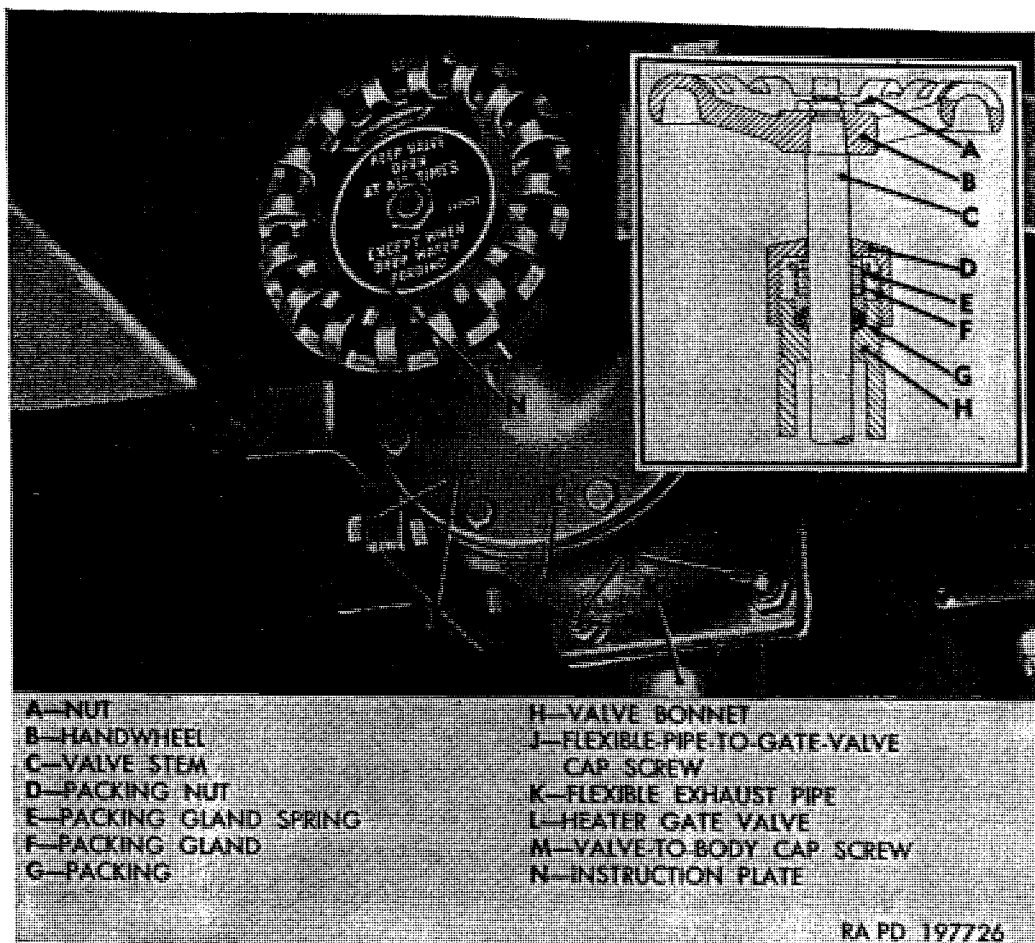

Figure 381. Exhaust heater gate valve.
Note. The key letters in parentheses are in figure 381, except where otherwise indicated.
a. General. Exhaust heater gate valve at exhaust entrance into tank heating chamber is installed as shown in figure 381. Use of gate valve is explained in paragraph 53. Valve is accessible between cab and tank body from right side of vehicle. Valve stem packing gland can be tightened or packing can be replaced without removing the valve from the vehicle.
- (1) Remove nut (A) securing instruction plate (N) and handwheel (B) on valve stem (C). Remove instruction plate and handwheel.
- (2) Unscrew packing nut (D) from valve bonnet; then remove packing nut, packing gland spring (E), and packing gland (F) from valve stem.
- (3) Using a pointed tool, pry packing (G) from between valve stem and bonnet. Make sure all old packing is removed.